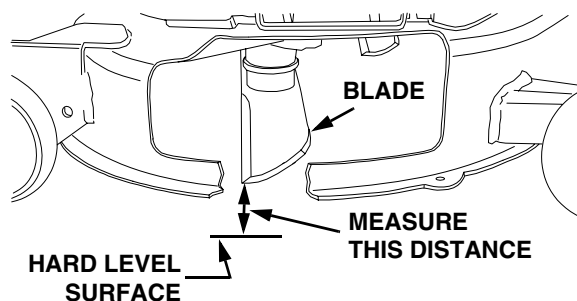

Figure 28
5. Referring to Figure 28, measure and record the distance from the hard, level surface to the outermost cutting edge of the right blade. Repeat this step for the left blade. If the two blade heights are not within 1/16 inch, proceed to steps 6, 7 and 8. If the two blade heights are within 1/16 inch, proceed to **FRONT TO BACK LEVELING ADJUSTMENT**.